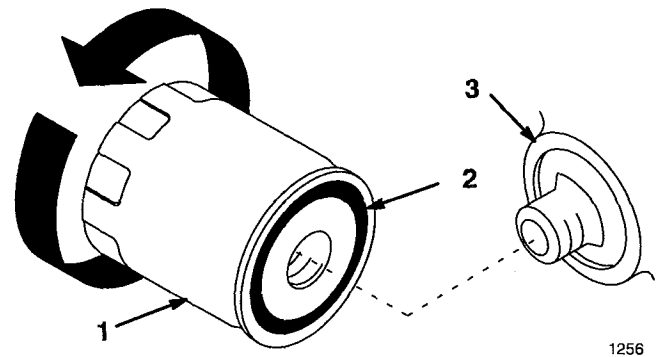

Figure 17
3. Apply a thin coat of new oil to the rubber gasket on the replacement filter (Fig. 17).
4. Install the replacement oil filter to the filter adapter. Turn the oil filter clockwise until the rubber gasket contacts the filter adapter, then tighten the filter an additional 1/2 turn (Fig. 17).